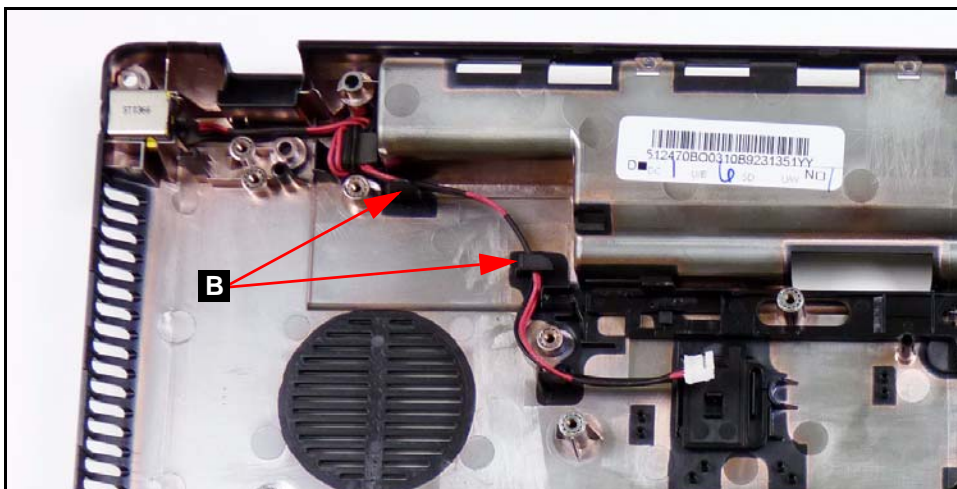

Figure 3-39. DC-IN Cable
2. Remove DC-IN cable from cable guides (B). (Figure 3-39)
3. Remove DC-IN cable from lower cover. (Figure 3-39)
2. Install DC-IN cable into cable guides (B). (Figure 3-39)